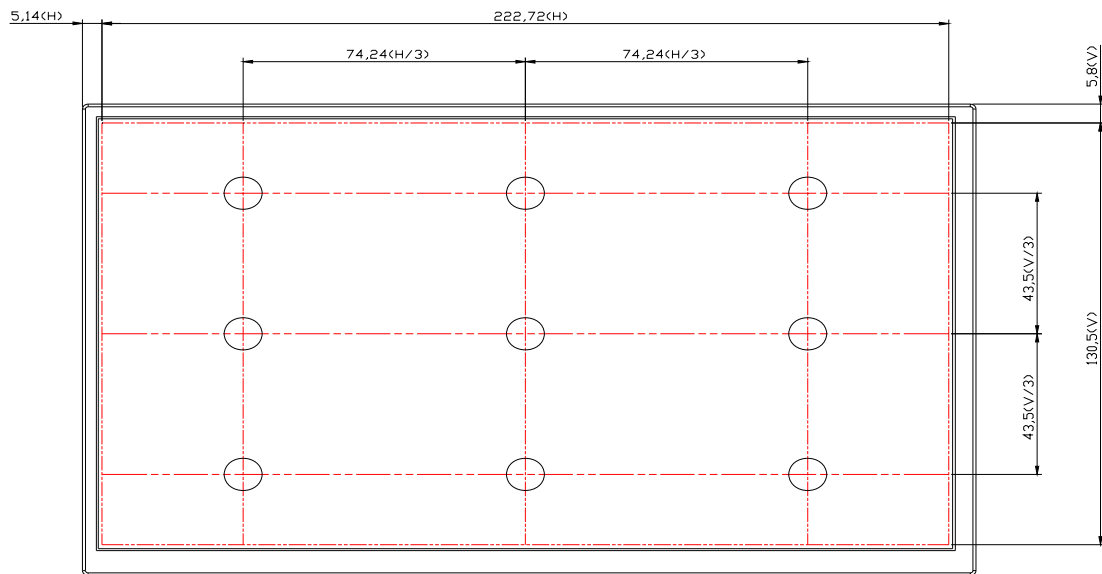

Fig8-1 Measuring point
- 3) Definition of luminance : Measure white luminance on the point 5 as figure8-1
Definition of Luminance Uniformity: Measure white luminance on the point1~9 as figure8-1